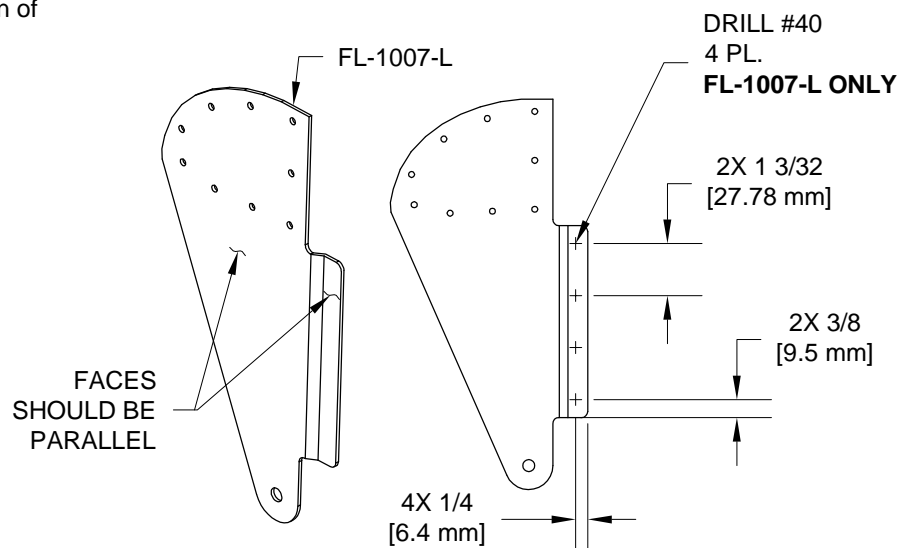

FIGURE 3: DRILL LEFT HINGE BRACKET FLANGES
Step 4: Adjust the flange of the FL-1007-L and -R Hinge Brackets to be parallel with the part body if/as required. See Figure 3.
Lay-out the four hole pattern on the joggled portion of one FL-1007-L Hinge Bracket as shown in Fig. 3.